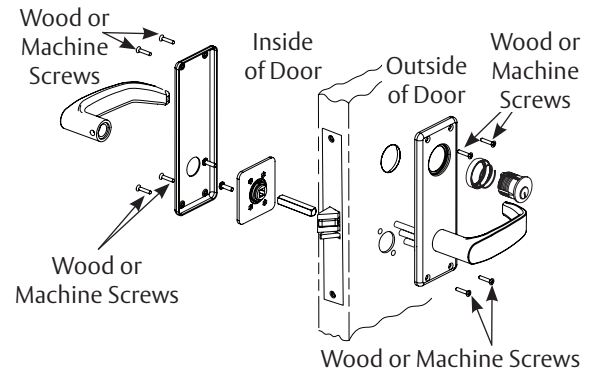

Figure 11
Inside and outside escutcheons are surface-applied with eight (8) #6 x 3/4" wood screws or eight (8) #6-32 x 3/4" machine screws. (Figure 11)